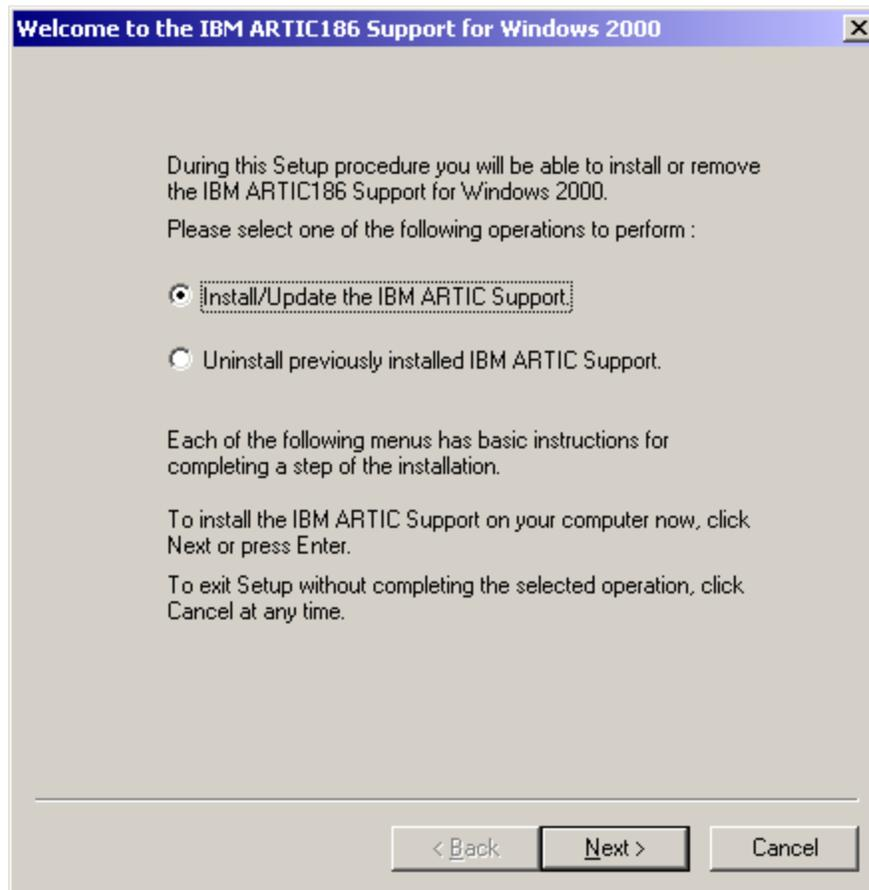

FIGURE 178. Welcome to the IBM ARTIC Support screen
5. The screen appears as in Figure 178: